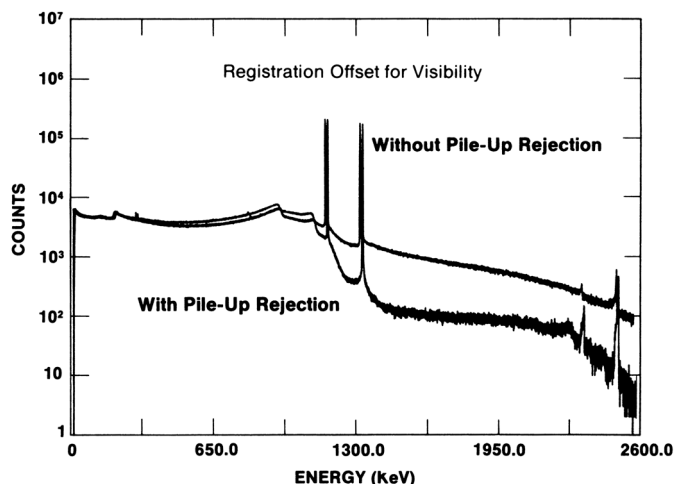

Fig. 3. Demonstration of the Effectiveness of the Pile-Up Rejector in Suppressing the Pile-Up Spectrum. See Pulse Pile-Up Rejector specification.
An efficient pile-up rejector is incorporated in the Model 672 Spectroscopy Amplifier. It provides an output logic pulse for the associated multichannel analyzer to suppress the spectral distortion caused by pulses piling up on each other at high counting rates (Fig. 3). The fast amplifier in the pile-up rejector includes a gated baseline restorer with its own automatic noise discriminator. A multicolor pile-up rejector LED on the front panel indicates the throughput efficiency of the amplifier. At low counting rates the LED flashes green. The LED turns yellow at moderate counting rates and red when pulse pile-up losses are >70%.
**Pulse Pair Resolution** Typically 500 ns. Measured using the  $^{60}\text{Co}$  1.33-MeV gamma ray under the following conditions: 10% efficiency germanium detector, 4-V amplitude for the 1.33-MeV gamma ray at the unipolar output, 50,000 counts/s (Fig. 3).